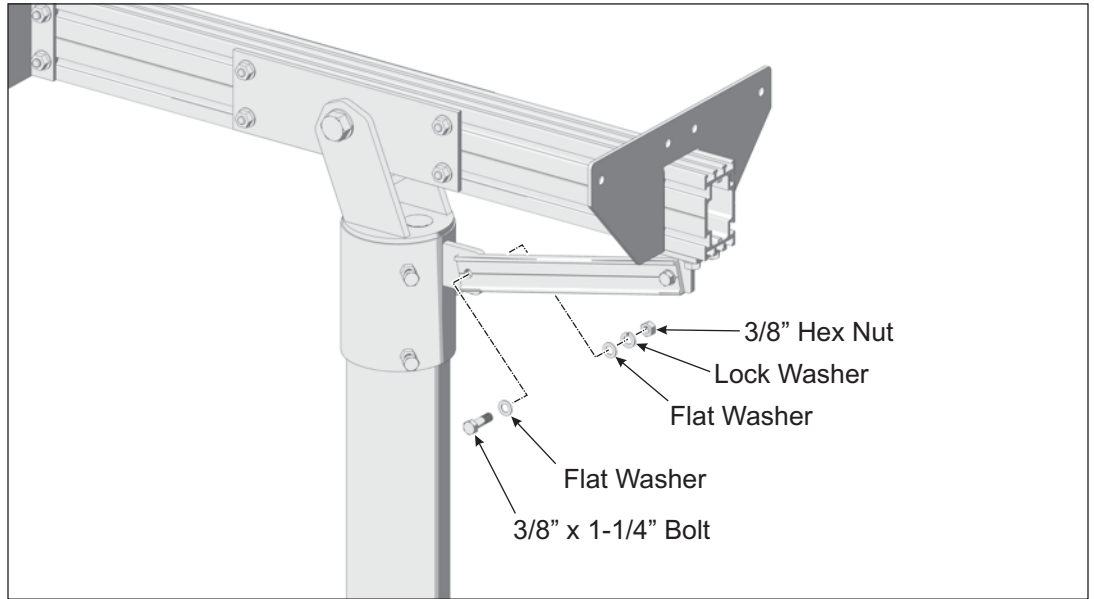

Figure 2-3: Securing Support Bar to Mounting Sleeve
H. Return and tighten the Pivot Bolt, **Torque to 125-150 ft.-lbs.** (See Figure 2-3)